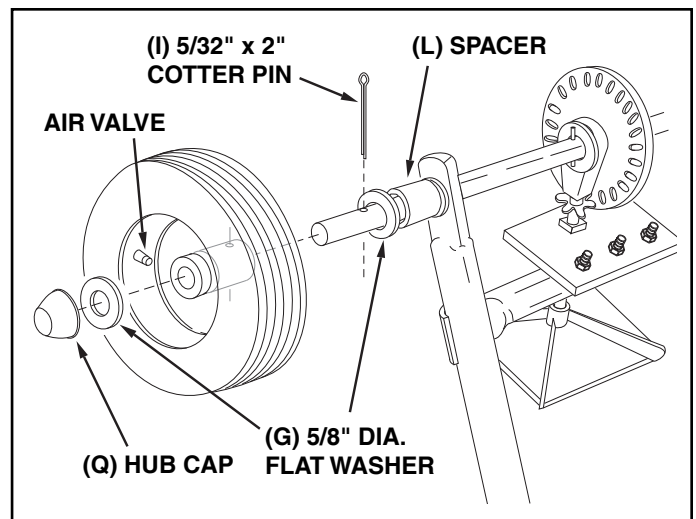

FIGURE 4
9. Select the end of the axle containing the cross hole. Assemble a spacer (L), a 5/8" flat washer (G), a wheel (air valve facing out) and then another 5/8" flat washer (G) onto the axle. Insert the 5/32" x 2" cotter pin (I) through the wheel hub and the axle and then spread the ends of the pin. See figure 4.
10. Install a hub cap (Q) by tapping it carefully onto the axle with a hammer. See figure 4.
1. If the axle, slotted gear and sprocket assembly is disassembled, mark down the positions of the parts as they are removed. The drive wheel and sprocket positions in relation to the slotted gear determine which direction the spreader plate will spin. Be sure to reassemble them in their original positions. (Refer to figure 4 on page 5.) Use shim washers (Ref. no. 21 on pages 18 and 19) as needed for minimum backlash. Add grease to gear and sprocket.